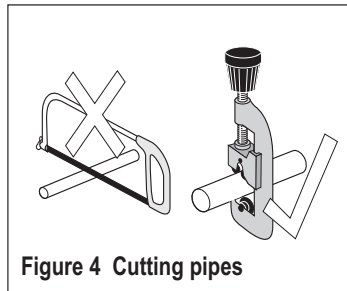

Figure 4 Cutting pipes
- 3.12 Cut all necessary pipe work to length with a pipe cutter and not a hacksaw, to minimise swarf - see Fig. 4.